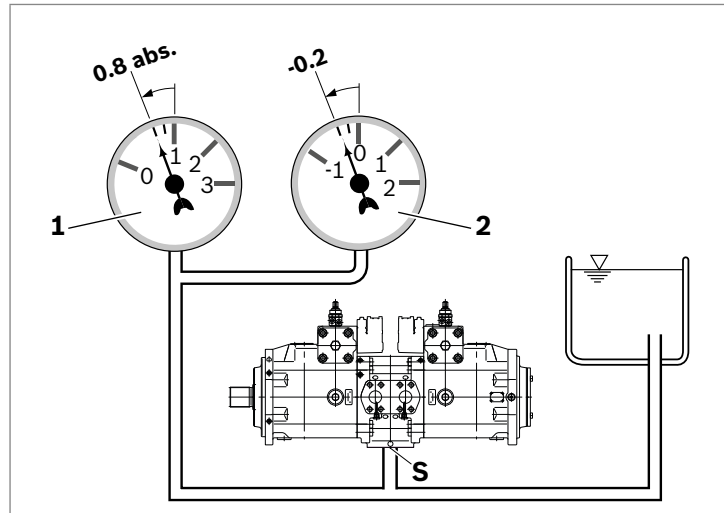

Fig. 8: Suction pressure
- ▶ Make sure that a minimum suction pressure of 0.8 bar abs. (without charge pump) and/or 0.6 bar abs. (with charge pump) is present at port **S** during operation, in all installation positions and installation locations for the axial piston pump, see Fig. 8. For additional pressure levels see.